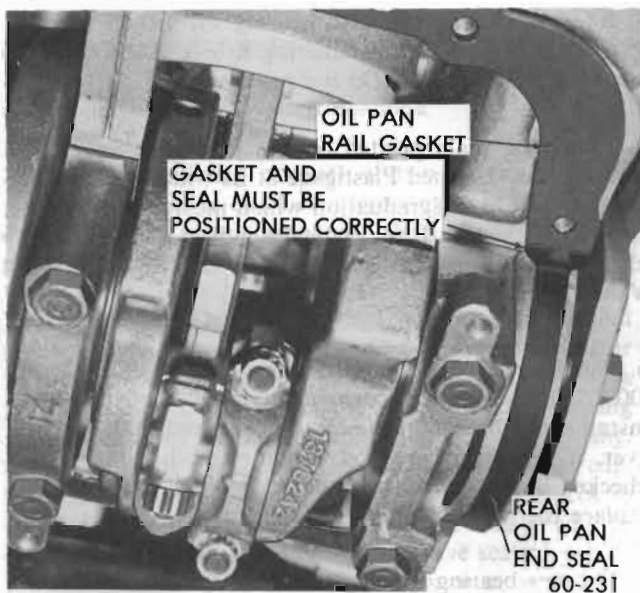

Figure 60-88 - Oil Pan Gasket and Seal Installation
3. Apply non-hardening Permatex to a few spots on a new pan gasket (cork) and install on block. Make sure seal and gasket are properly fitted. See Figure 60-88. (455 cu.in. only).